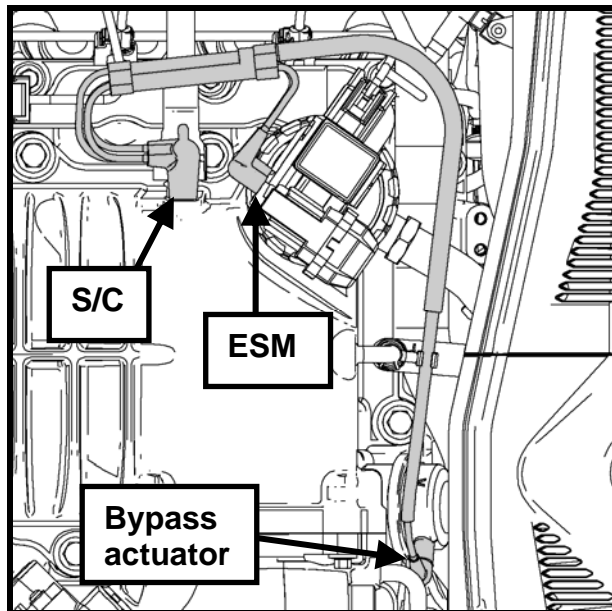

Fig. 3
**STEP 5:** Carefully label each port before removing the vacuum harness from the vehicle (i.e., supercharger housing, ESM and supercharger bypass actuator) (See Fig. 3).